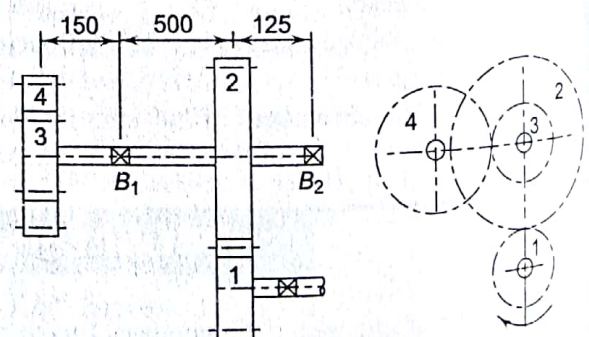

Fig. 17.49
- 17.6 **D** A train of spur gears with 20° full depth involute teeth is shown in Fig. 17.49. Gear 1 is the driving gear and transmits 50 kW power at 300 rpm to the gear train. The number of teeth on gears 1, 2, 3 and 4 are 30, 60, 25 and 50 respectively; while the module for all gears is 8 mm. Gears 2 and 3 are mounted on the same shaft. Gear 1 is rotating in clockwise direction when seen from the left side of the page. Calculate: [LO 4]